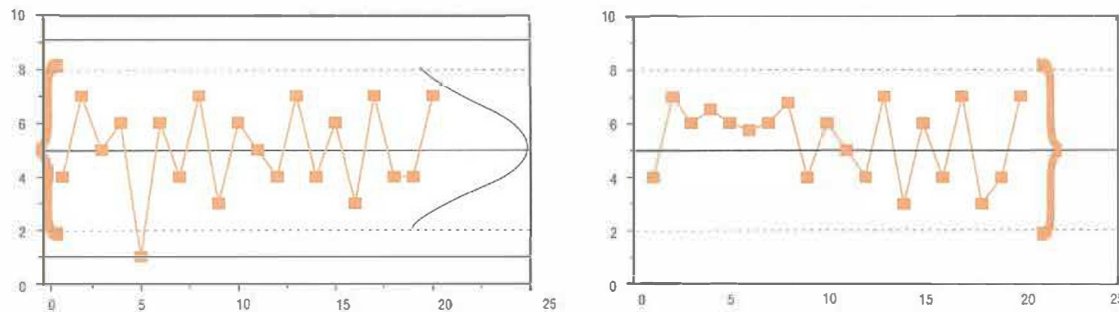

FIGURE 10.12 Examples of control charts
Let's look at some of the related terms you should know for the exam. The following can be indicated on a control chart. As you study these terms, use figure 10.12 to envision what they mean in practice. Understanding these terms and how control charts are used can help you get a few more questions right on the exam.
- **Plotting the control chart** During the Control Quality process, samples are taken and the data are plotted in software that can render a chart (see the small squares shown on the control chart in figure 10.12). The control chart shows whether each sample is within acceptable limits. If the data does not fall within the acceptable range, the results are considered to be "out of control," which indicates a problem that needs to be fixed.
- **Mean (average)** The mean is indicated by a line in the center of the control chart. A normal distribution curve represents the acceptable range of variance around a mean, and it falls within the boundaries of the control limits. In figure 10.12, the normal distribution curve is on the right side of the first control chart.
- **Specification limits** While control limits represent the performing organization's standards for quality, specification limits represent the customer's expectations—or the contractual requirements—for performance and quality on the project. Specification limits are inputs from the customer. Therefore, they can appear either inside or outside the control limits. In the first chart of figure 10.12, they are the solid lines above and below the dashed lines (which represent the upper and lower control limits). To meet the customer's specification limits, the performing organization's standards for quality (control limits) must be stricter than those of the customer. On the exam, assume that specification limits are outside the upper and lower control limits.
- **Rule of seven** The rule of seven is a general rule (and you may see a general rule described as a "heuristic"). It refers to a group or series of data points that total seven or more on one side of the mean. The control chart on the right in figure 10.12 has seven nonrandom data points that fall above the mean. The rule of seven tells the project manager that, although none of these points are outside the control limits, they are not random, and the process is out of control. The project manager should investigate this type of situation and find a cause.
- **Assignable cause/special cause variation** An assignable cause or special cause variation signifies that a process is out of control. (See the data point sitting on the lower control limit in the left chart in figure 10.12.) If there is an assignable cause or special cause variation, it means a data point, or a series of data points, requires investigation to determine the cause of the variation. The project manager could use additional tools, such as a cause-and-effect diagram, to try to uncover the root cause of the variation.